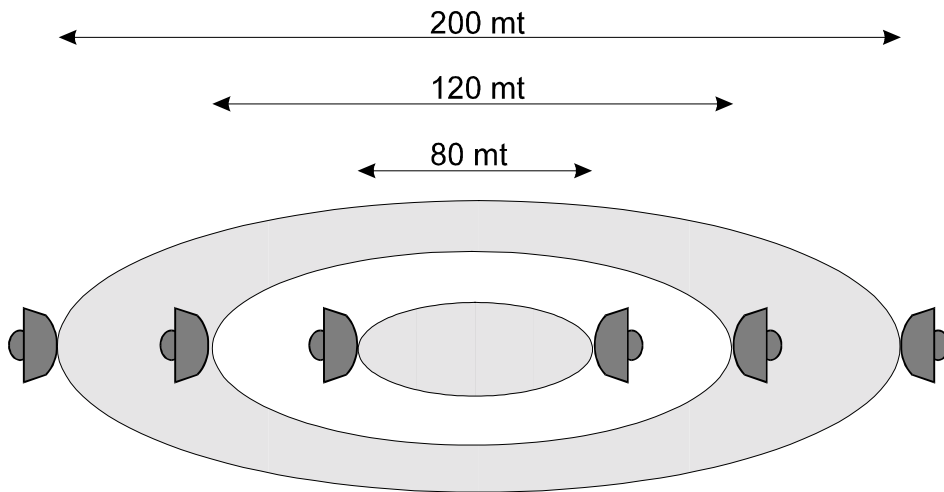

Figure 2 - Variation of the dimension of the sensitive zone on the variation of the distance
- **The effective distance between transmitter and receiver**, depending on the type of antenna, determines the other two dimensions, due to the fact that the opening angle of the antennae used remains constant to the variation of the reciprocal distance between transmitter and receiver. (FIG. 2)